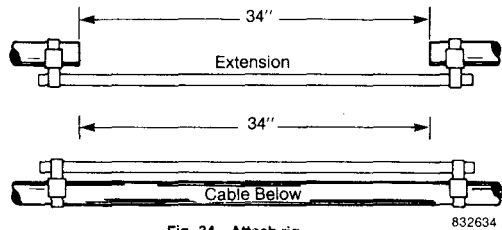

Fig. 34—Attach rig.
*Note:* This opening will require an extended support tube to attach to the cable butts; or support tube can be attached to a lower adjacent cable. See Figure 34.